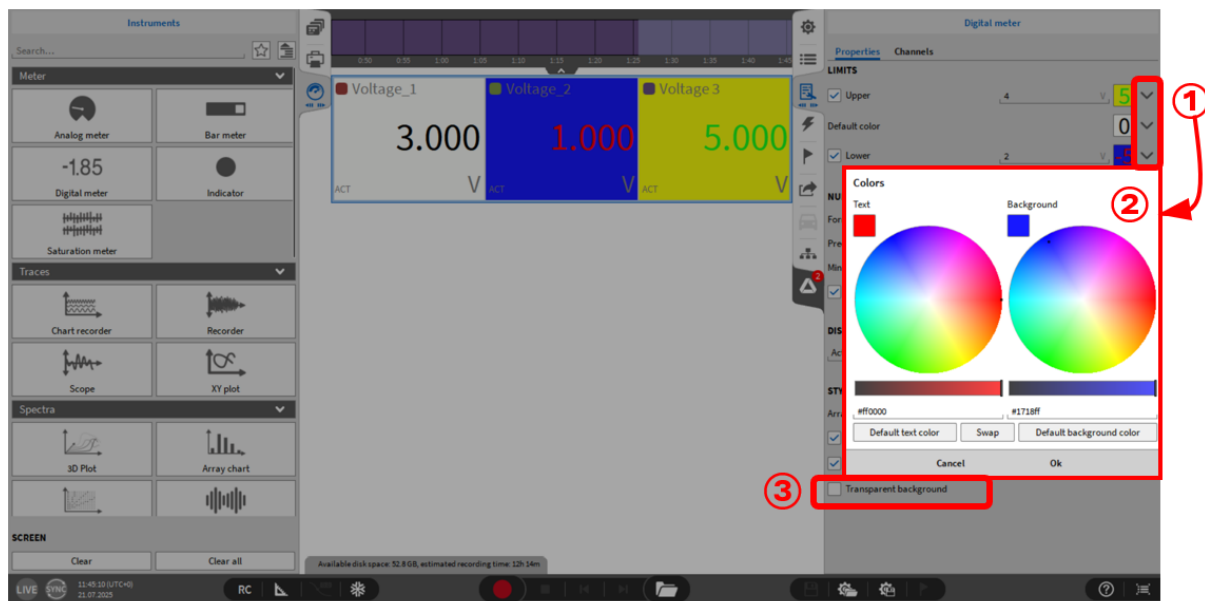

Fig. 8.8: Digital meter – Limits
- Limits: Allows users to color the Digital meters' text based on different limit values. This really helps in identifying signals which have hit a limit when the display is very "busy". This is illustrated in Fig. 8.8. It is possible to define colors for upper and lower limit as well as a default color between the upper and lower limit. First, it is necessary to define a value for the limits (except of the default setting). Afterwards it is possible to define a color for the text and the background by pressing the button ① shown in Fig. 8.8. When pressing one of the buttons in ① for the respective limit a new window appears (② in Fig. 8.8). Here it is possible to define the color for the text itself as well as the color for the background. With the buttons "Default text color" and "Default background color" it is possible to go back to the default settings, with the button "Swap" it is possible to switch the setting of the text and the background. By pressing the "Ok" button the settings will be stored for the selected digital meter.
For the background it is necessary to deactivate the “Transparent Background” option (③ in Fig. 8.8).